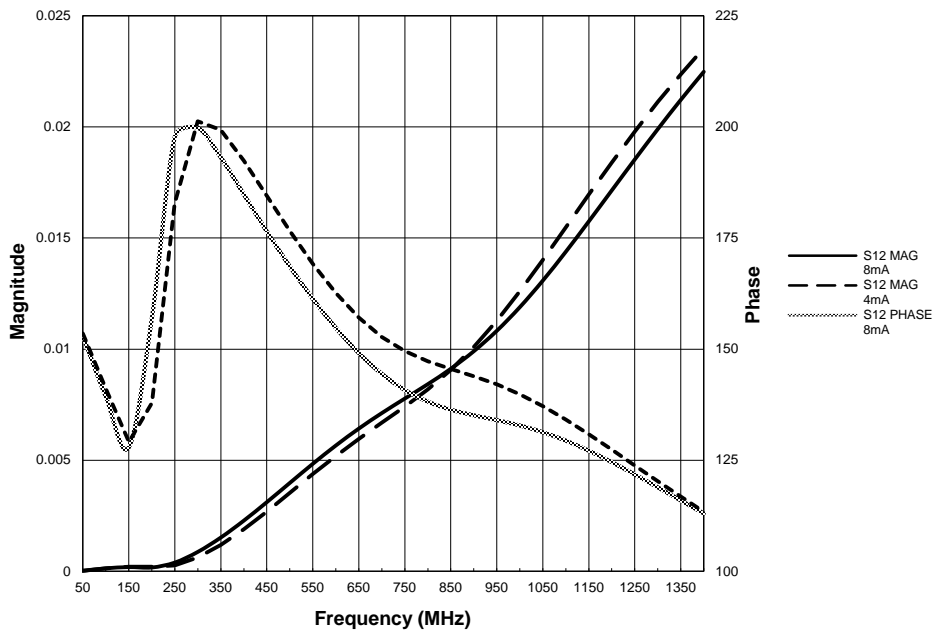

Figure 7 - S12 50Ω external AC, 4 & 8mA internal DC load
4. The peak-to-peak differential input swing is the range for which AC parameters are guaranteed. See figure 7 V_D and V_D must remain within the range of ± 750 mV with respect to V_{BB} . The device has a voltage gain of ≈ 20 to the Q/Q outputs and a voltage gain of ≈ 100 to the Q_{HG}/Q_{HG} outputs.